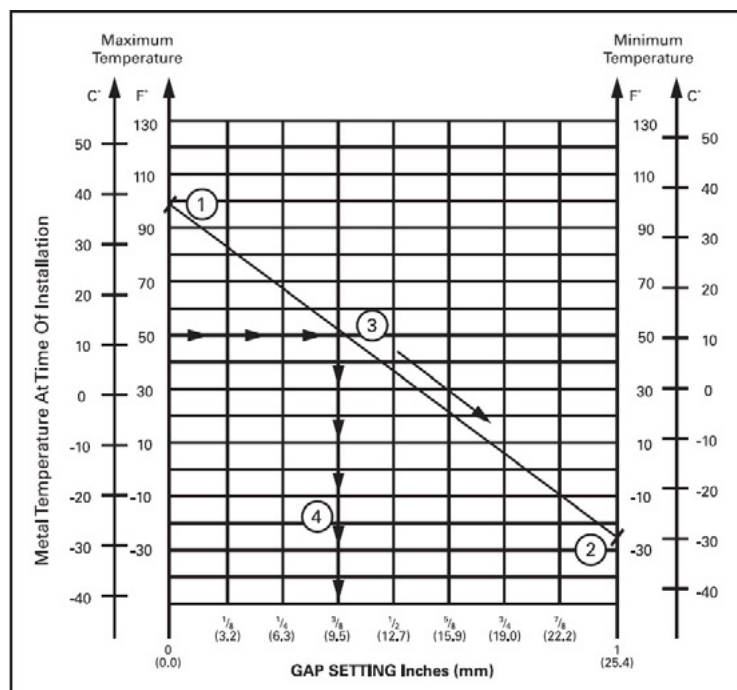

Figure 3-40 Gap Setting of Expansion Splice Plate - 25.4 mm (1 in) Gap Maximum
Step 1. Using Figure 3-40, plot the highest expected cable tray metal temperature during the year on the maximum temperature vertical axis. *Example value: 100°F (38°C).*